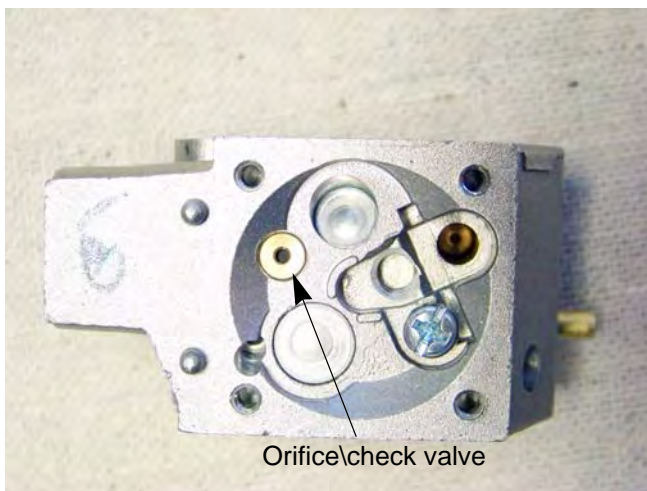

Figure 5.23
14. The orifice\check valve can also be seen from the pump side of the throttle housing. See Figure 5.23.